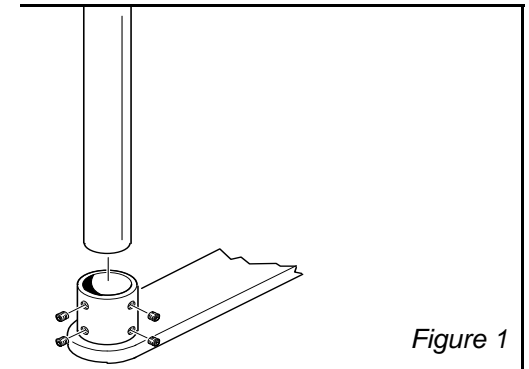

Figure 1
2. **Install the post on the chair mount bracket (Figure 1).**